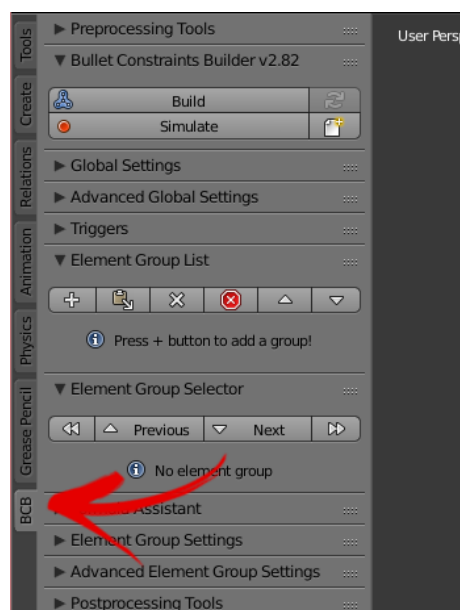
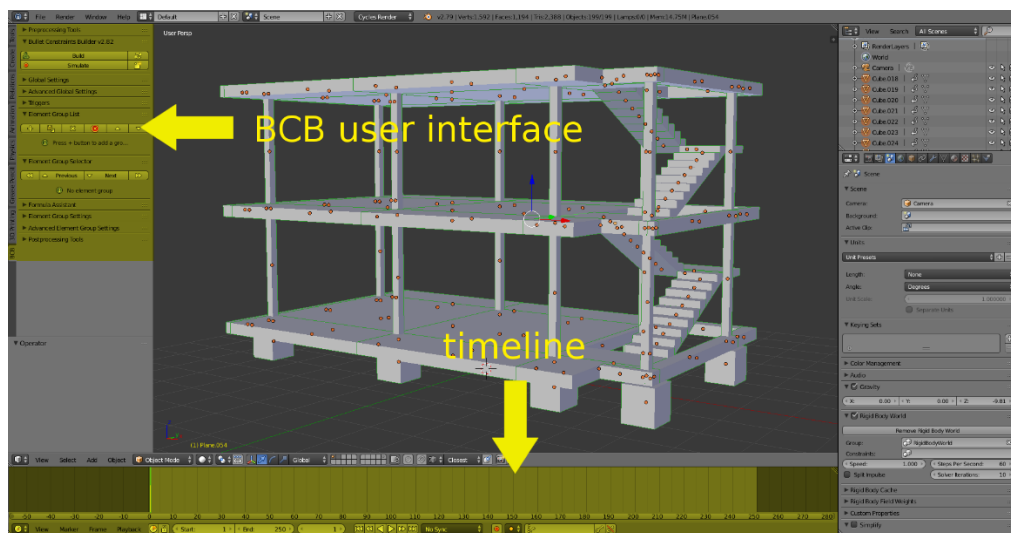

Figure 9
Figure 10
6. If there is now a tab named “BCB” on the left-hand side of Blender’s user interface, the installation was successful and you are ready to go. Activate the “BCB” tab and the BCB interface will open, Figure 9. From now on the BCB will automatically be loaded when starting Blender.
- Make sure the “BCB” tab is selected by clicking on it (red arrow in Figure 9), the BCB user interface will then show up, Figure 10. The time line displays the total length of the simulation of 250 frames. Once the simulation has been finished and by adjusting the time line slider the different stages of the simulation can be tuned into, Figure 10.